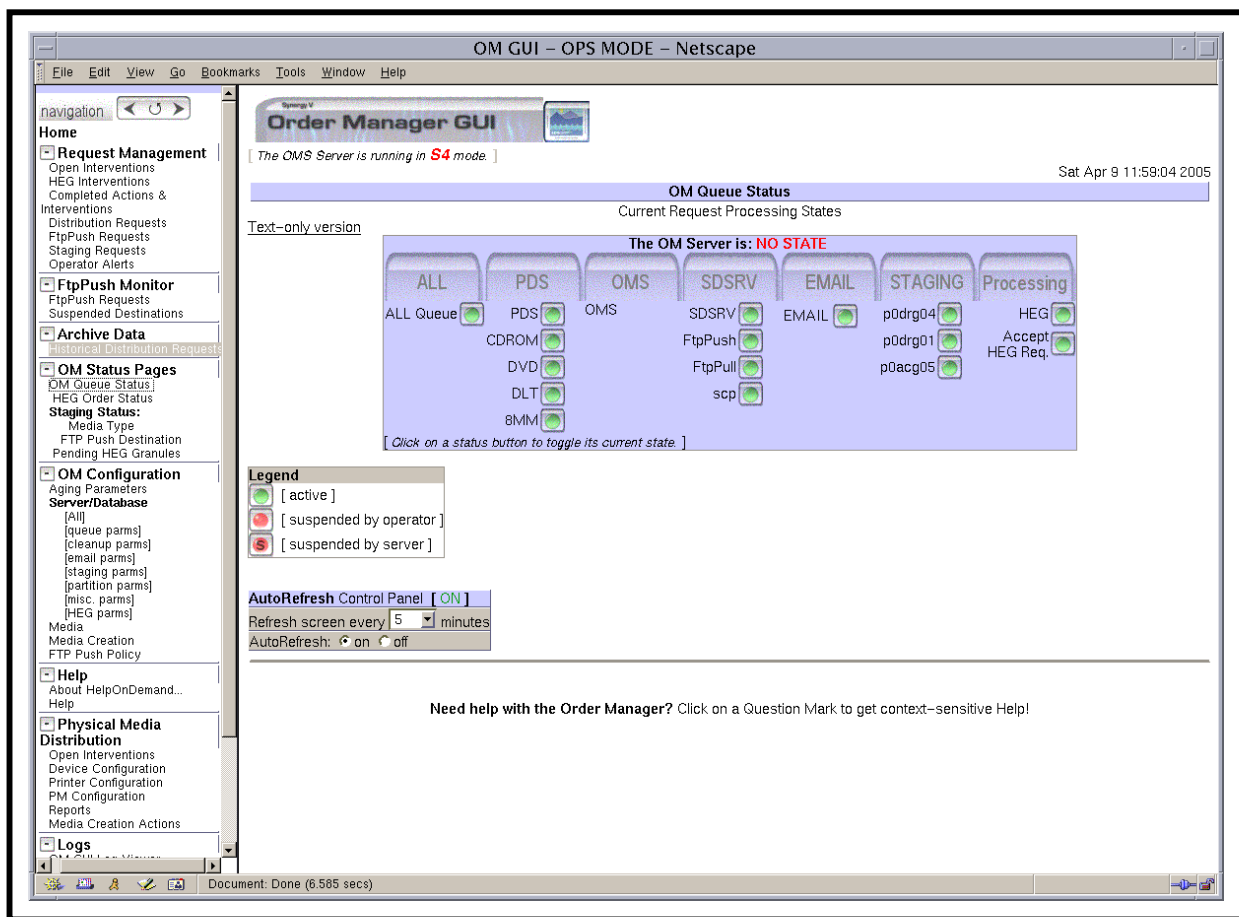

Figure 55. OM Queue Status Page
The **OM Queue Status** page (Figure 55) provides the full-capability operator with a means of checking and modifying OM queue status. The **OM Queue Status** page allows the full-capability operator to monitor and change the current status of request queues for all media as well as the request queues for PDS, OMS, SDSRV, e-mail, staging, and HEG. (The limited-capability operator can monitor but cannot change the status of queues.) In addition, the **OM Queue Status** page allows both full-capability and limited-capability operators to determine the status (“up” or “down”) of the Order Manager Server.
- 2 If the **OM Queue Status** page (Figure 55) is not already being displayed, click on the **OM Queue Status** link in the navigation frame of the **OM GUI**.
- The **OM Queue Status** page (Figure 55) is displayed.